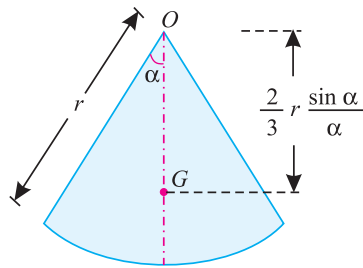

Fig. 6.5. Circular sector
6. The centre of gravity of a circular sector making semi-vertical angle  $\alpha$  is at a distance of  $\frac{2r \sin \alpha}{3 \alpha}$  from the centre of the sector measured along the central axis as shown in Fig. 6.5.